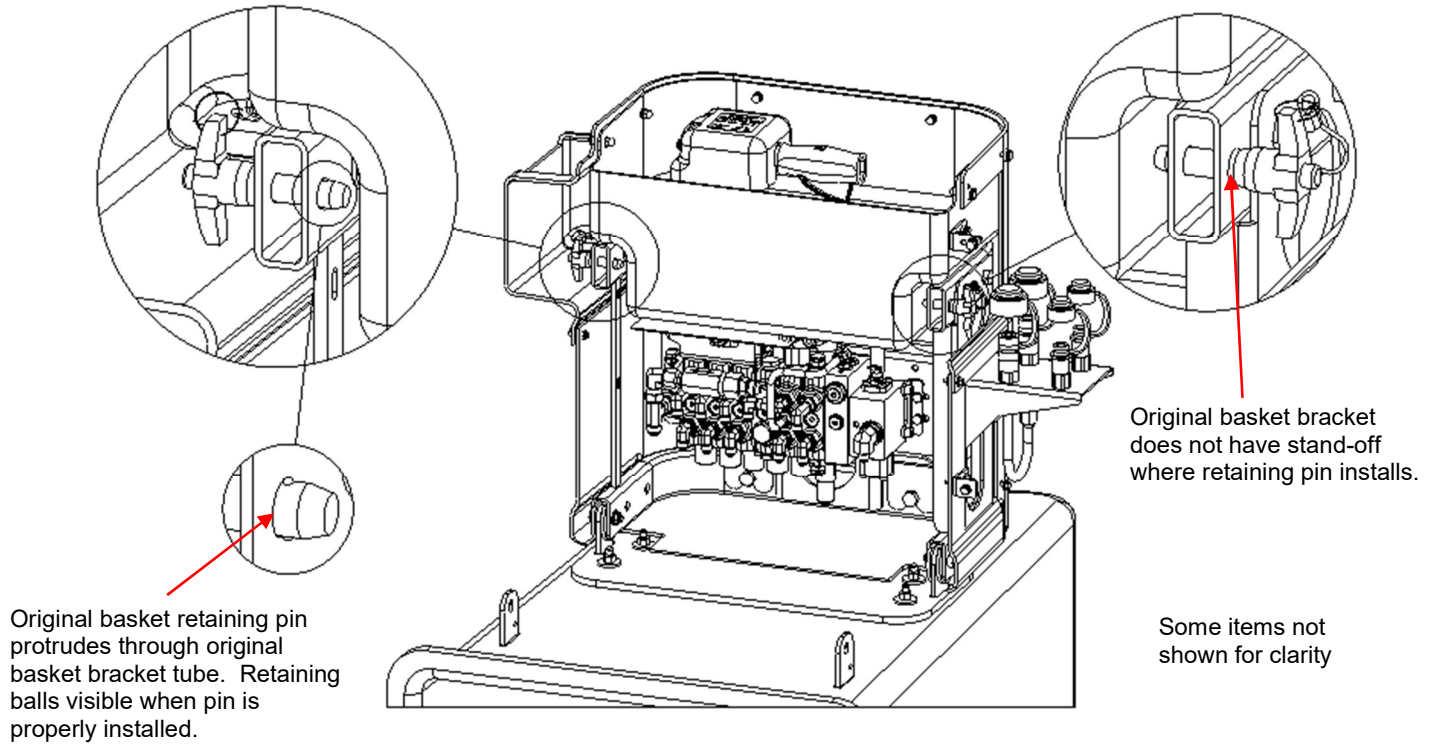

Figure 1. Compatible Components - Original basket bracket and original basket bracket retaining pins
2. Before the next use of the aerial device, inspect for compatibility of the basket bracket and the basket retaining pins using Figures 1 through 4 at the end of this bulletin as reference. Each basket retaining pin must extend through the basket bracket tube and the pin must have a method of retainment when the pin is fully installed such as retaining balls or secondary locking pins.